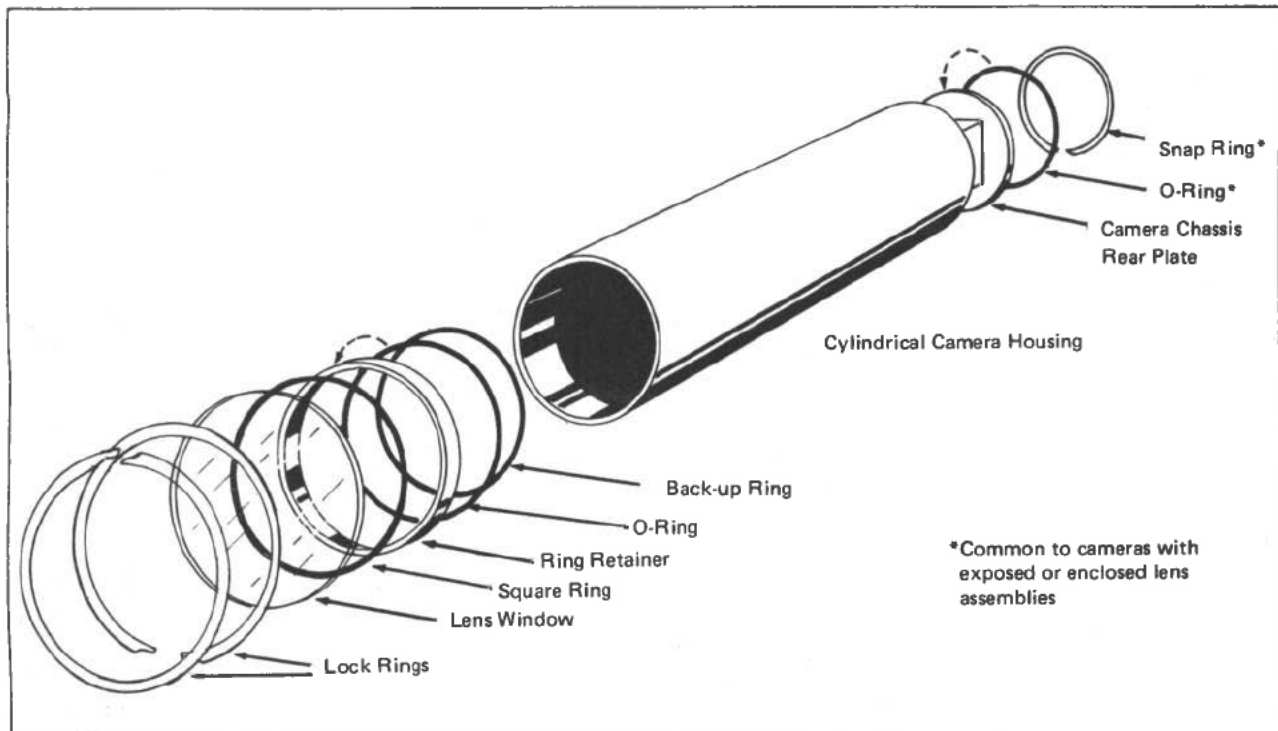
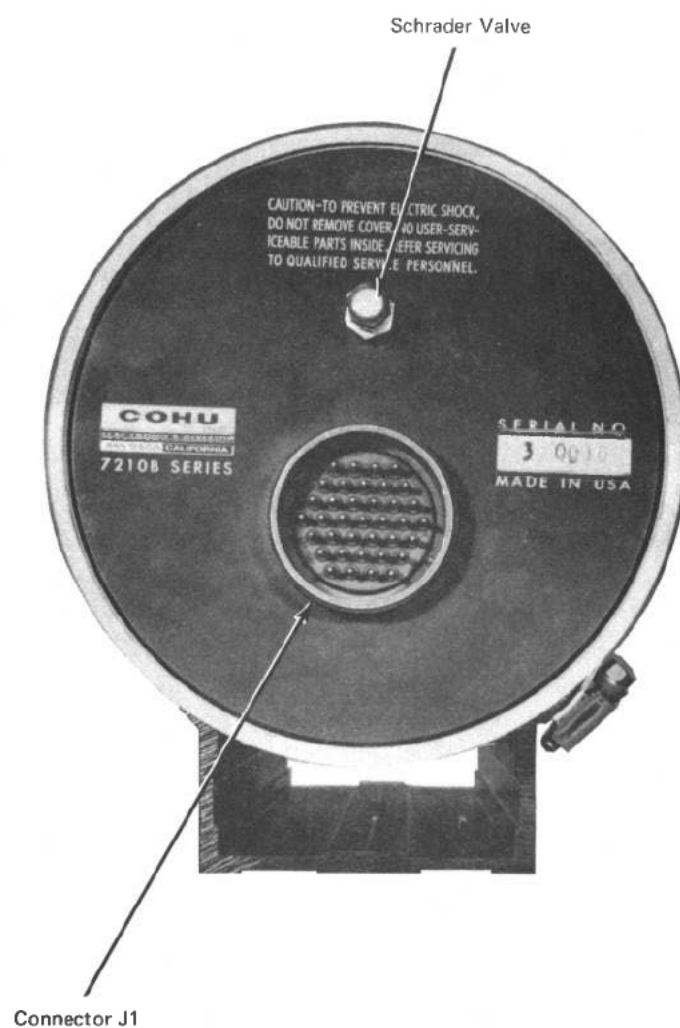

Figure 1-8. End Plate and Window Removed from Camera Barrel Housing.
Figure 2-7. Typical 7210B Camera End Plate View
1. Using a straight slot screwdriver for leverage, remove steel snap ring retaining end plate at rear end of camera barrel (Figure 1-8). Using same method, remove steel snap lock rings retaining glass window at front end of camera barrel housing. Remove window from barrel and lay aside on nonabrasive surface.
2. Reinstall end plate and steel snap ring at rear end of camera (refer to **Figure 1-8**).
3. Reinstall glass window and steel snap lock rings at front end of camera (refer to **Figure 1-8**).
- b. Using a straight-slot screwdriver for leverage, remove steel snap ring that retains back end plate in camera housing (Figure 2-7). If the camera has enclosed lens, remove steel snap ring that retains glass window in front of housing (refer to Figure 1-8).